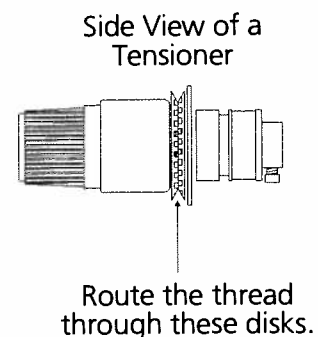
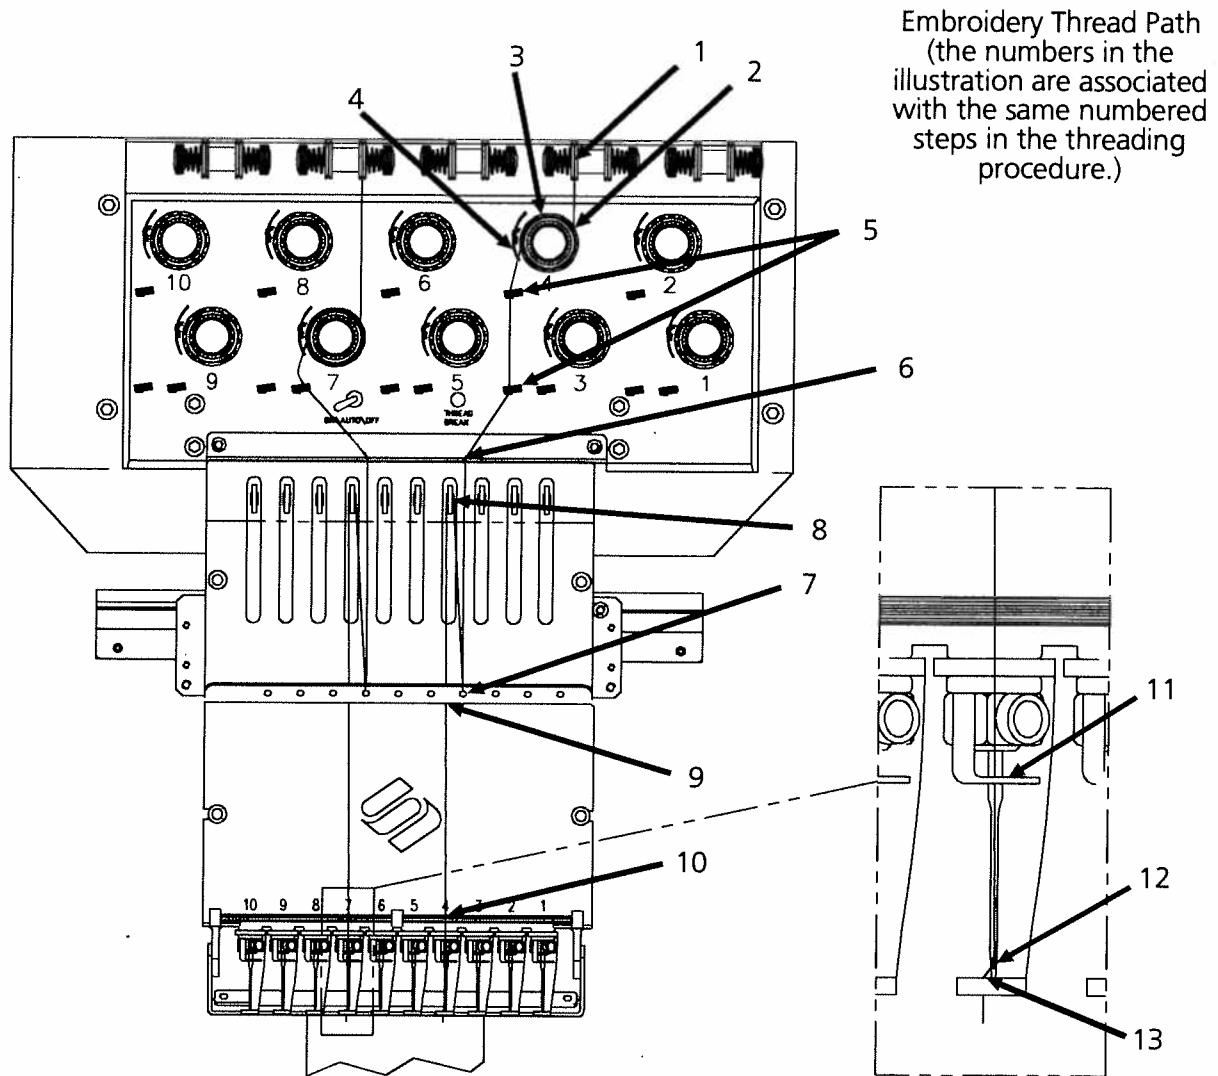

Figure 4-3
Figure 4-4
Each thread position has its own pretensioner, tensioner, and thread guides. Pretensioners are located at the top of the tensioner bracket and help remove any kinks from the thread while providing an even flow to the tensioner. Finish threading the machine using the following instructions which are numbered in Figure 4-4 and detailed in Figures 4-3, 4-5, and 4-6.
- Route the thread down to the tensioner, between the two metal wheels of the disk as shown in Figure 4-3.